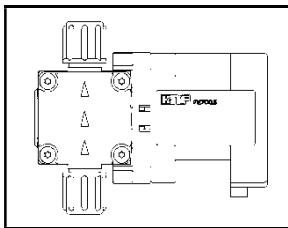

Fig. 7: Optimum installation position from bottom to top
- ➔ Generally speaking, the pump can be mounted in any installation position. For maximum precision and rapid venting the vertical pumping direction should ideally run from bottom to top (fig. 7).